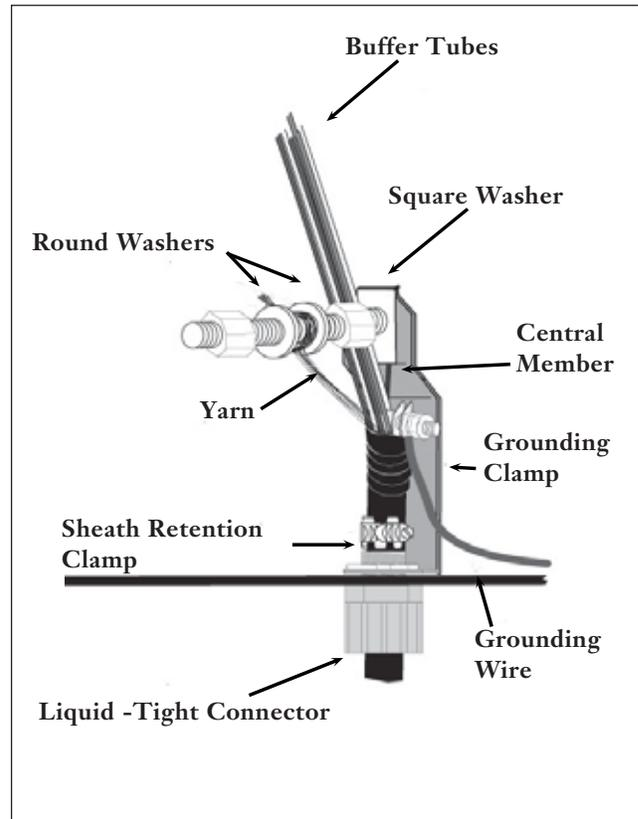

Figure 14
7.8 Secure cable to strain-relief bracket as illustrated in Figure 14 and tighten liquid-tight connector.